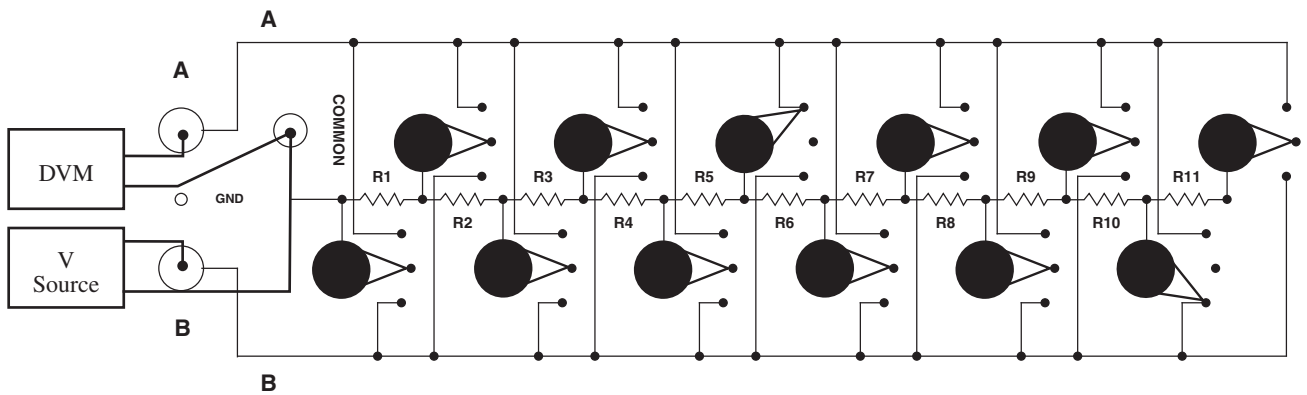

Figure 4-9: Unit configured as a precision voltage divider with 50% ratio (in this example)
- For a precision voltage divider with 50% ration, see Figure 4-9.